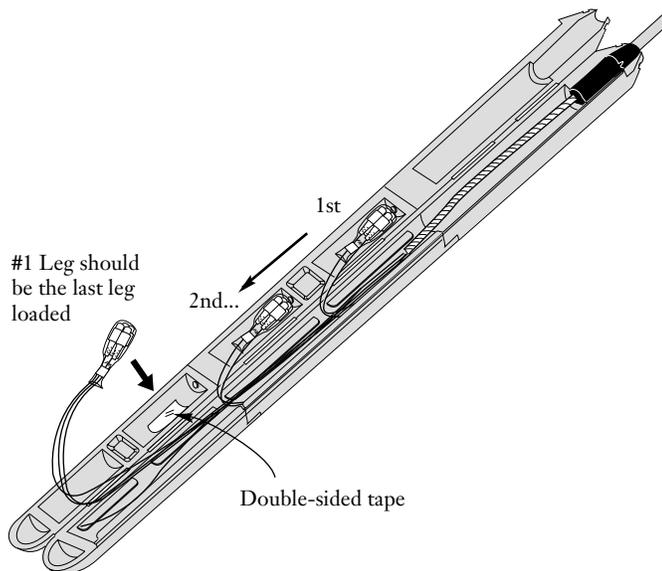

Figure 22
6.8 Place a piece of double-sided tape in the bottom of each connector pocket (see Figure 22).
6.9 To load the grip (Figure 22):